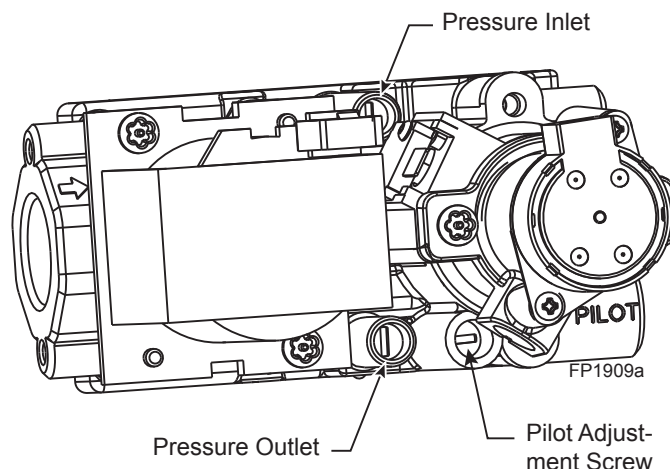

**Figure 38 -
4. To check gas pressures at valve, turn captured screw counter clockwise 2 or 3 turns and then place tubing to pressure gauge over test point. Turn unit to high. *Figure 38.* After taking pressure reading, be sure and turn captured screw clockwise firmly to reseal. Do not over torque. Check test points for gas leaks.